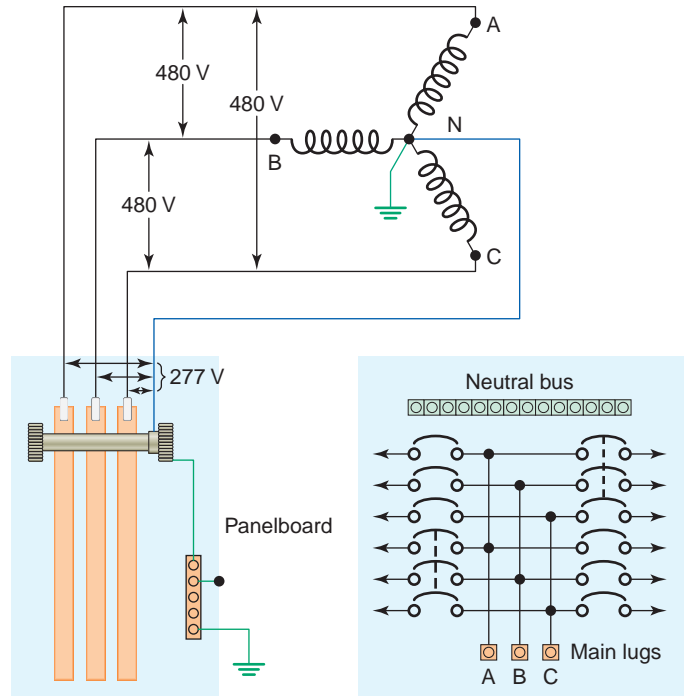

Figure 3-11 Wiring for a 277/480-V, three-phase, four-wire panelboard.
Figure 3-11 shows the typical internal wiring for a 277/480-V, three-phase, four-wire panelboard equipped with circuit breakers. This popular system used in industrial and commercial installations is capable of supplying both three-phase and single-phase loads. From neutral (N) to any hot line, 277 V single-phase for fluorescent lighting can be obtained. Across the three hot lines (A-B-C) 480 V three-phase is present for supplying motors.